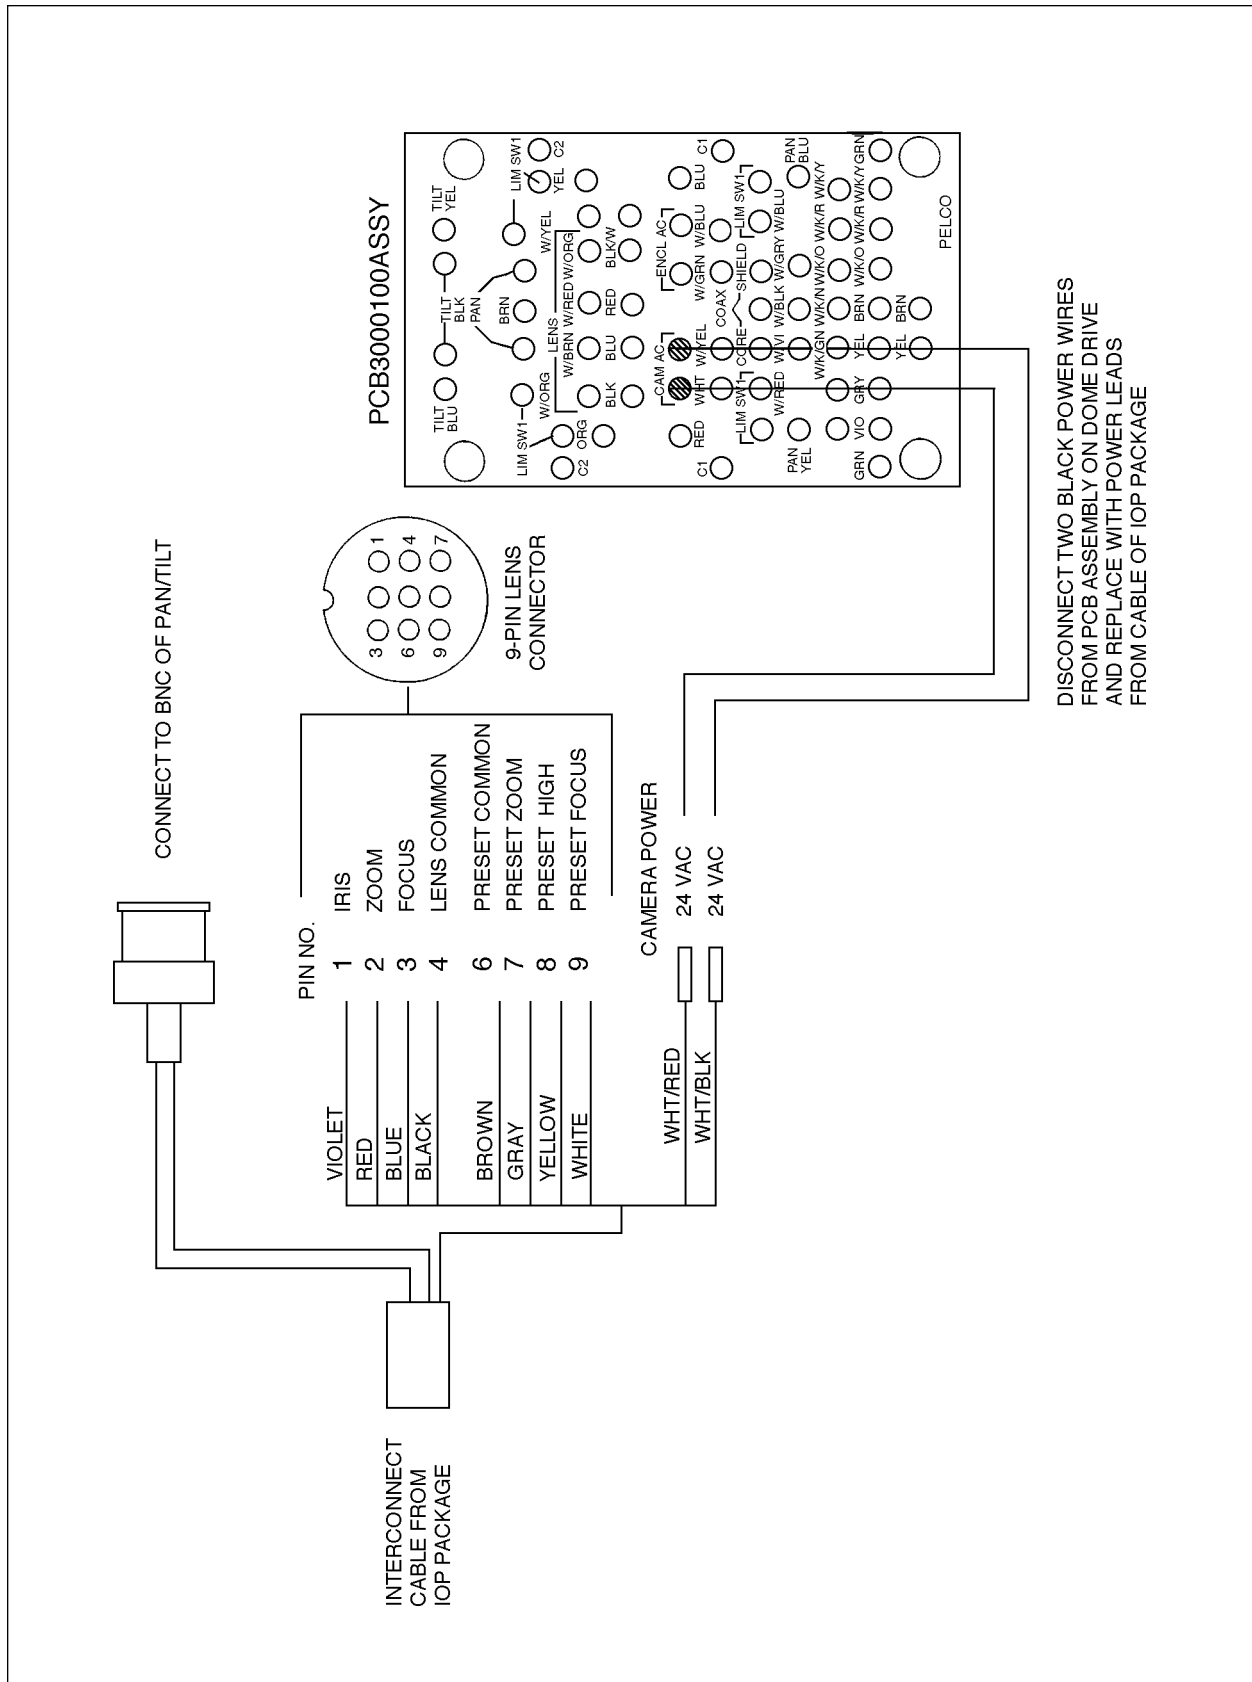

Figure 3. Wiring Diagram for SB1900 Preset Dome and IOP Package With Presets
3. Insert the two (2) 1/4-20 studs on the IOP package through the slots in tilt table with the IOP facing the front of the tilt table. From the bottom place a split lock washer and a 1/4-20 nut on each stud. Tighten down nuts just snug.
4. Make all electrical wiring and other connections as shown in Figure 3.